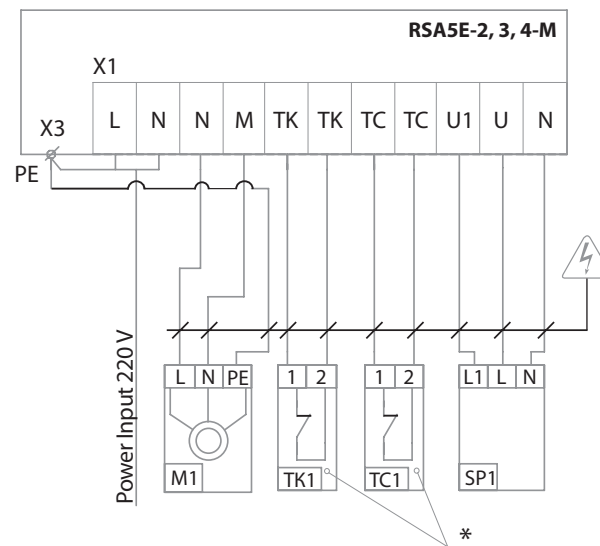

Fig. 4.
The unit is a single-phase transformer with the output rate of 110V - 130V - 160V - 190V - 230V., when powered from 220V, 50 Hz mains. The front panel has the ON / OFF button — 1 (see Fig. 1), speed selection knob — 2, alarm lamp — 3 which indicates regulator emergency operation. The device is equipped with the fan motor circuit breaker which disrupts the feed circuit on actuation of the thermal contact in the fan motor on terminal TK (see Fig. 4).
The regulator design also enables connection of an indoor thermostat or freezing protection thermostat to terminal TC (see Fig.4). Opening of the thermostat contacts disconnects the voltage supply to the fan motor.
The regulator also has terminals U1, U, and N (see Fig.4) enabling connection of external equipment (e.g. air damper actuators). Switching button 1 to «OFF», opening of the thermal contact or thermostat contacts the current supply to terminals U1, N and the fan electric motor is cut off. Contact U constantly remains under 220V/50 HZ voltage (used for electric actuators of electric dampers which are not equipped with a return spring).
- Complete the electrical connections according to the wiring diagram (see Fig. 4). The external wires are connected to the device by means of bolt-and-nut terminals 5 (see Fig. 3). The cables are routed into the unit through sealed lead-ins 4 (see Fig. 3). The external lead-in (220V/50Hz) must be equipped with an automatic switch built into the stationary wiring.
ATTENTION! If the thermal contacts of the fan electric motor or the thermostat are not connected to the regulator, bridge contacts TC or TK correspondingly (see Fig. 4)